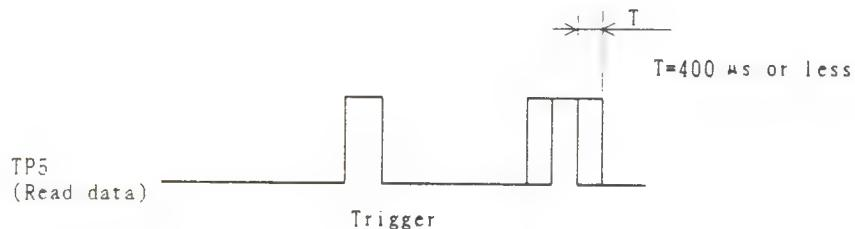

Fig. 5-8 Symmetry Check
- c) Check the symmetry as described in Fig. 5-8.
- d) Exchange the head assembly if the symmetry is out of the range as described in Fig. 5-8 on only one head side.